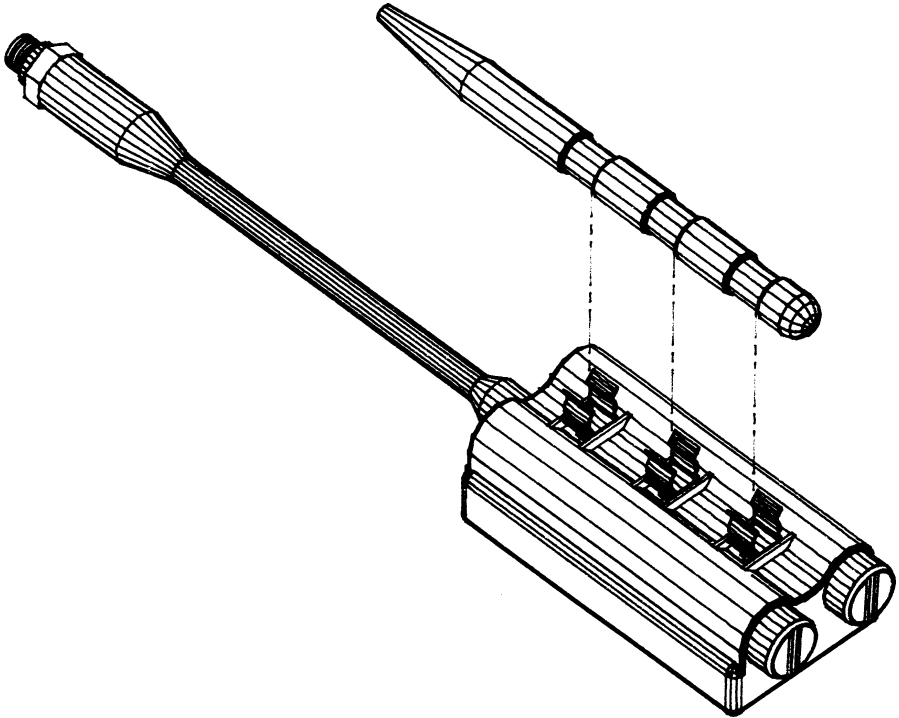

Fig. 16
1. To install, orient the probe of the Field Programmer so that the wire running to the pushbutton box is running in the same direction as the high-pressure transducer. See Fig. 16.